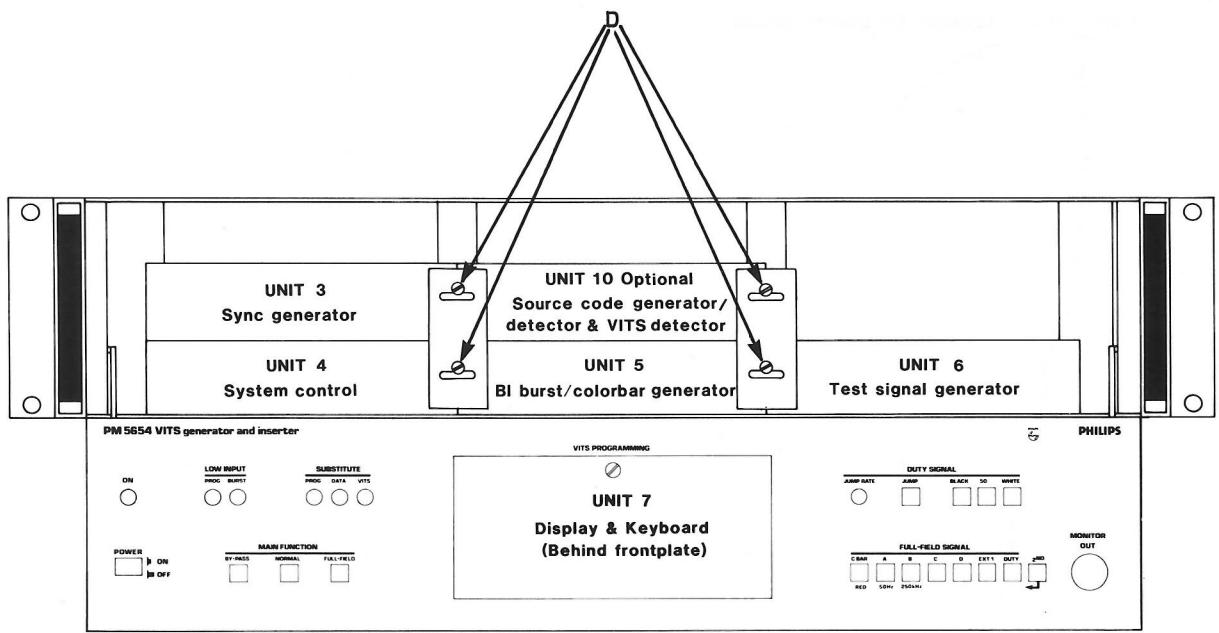

Fig. 9-3 Unit location - front panel removed
4. Loosen the screws D, lift the bracket and slide it either to the right or left (depending which unit is to be removed) and pull out the unit(s). Refer to fig. 9-3.